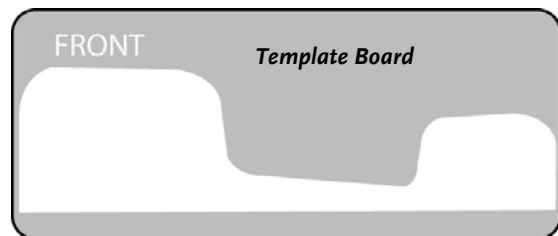

Figure 24
- n) Remove the wire and cut the contour out of the Template Board (**Figure 24**).